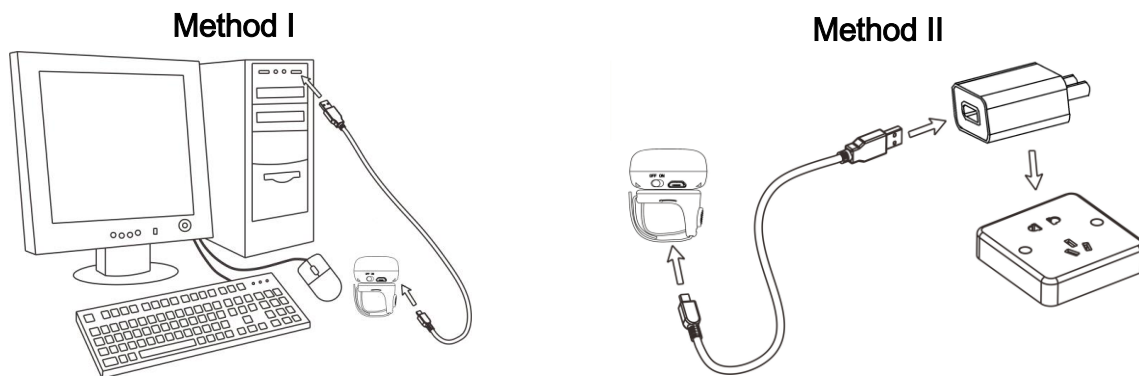

Figure 3-1 Diagram of charging battery
1. Please charge the scanner before the first time of use. There are two methods of charging battery as demonstrated in Figure 3-1. The charging indicator (red LED) on the scanner is turned on when the charging is in process. When the charging process completes, the red LED is turned off.